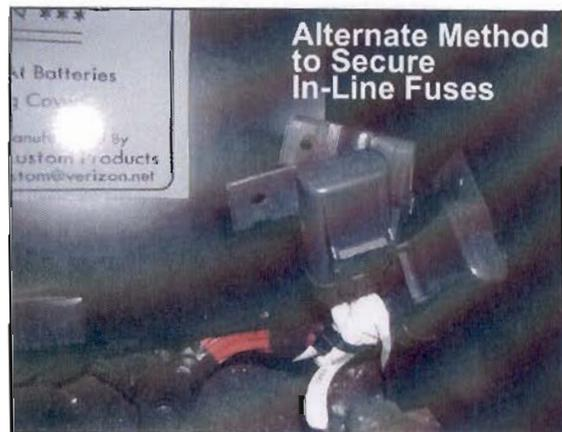

Figure 2
- B. Use a #8 X 1" Tek Screw to attach the mounting tab on one of the in-line fuses to a surface above the floor of the electrical compartment, making sure that all fuses will be elevated off the floor after installation. See Figure 2.